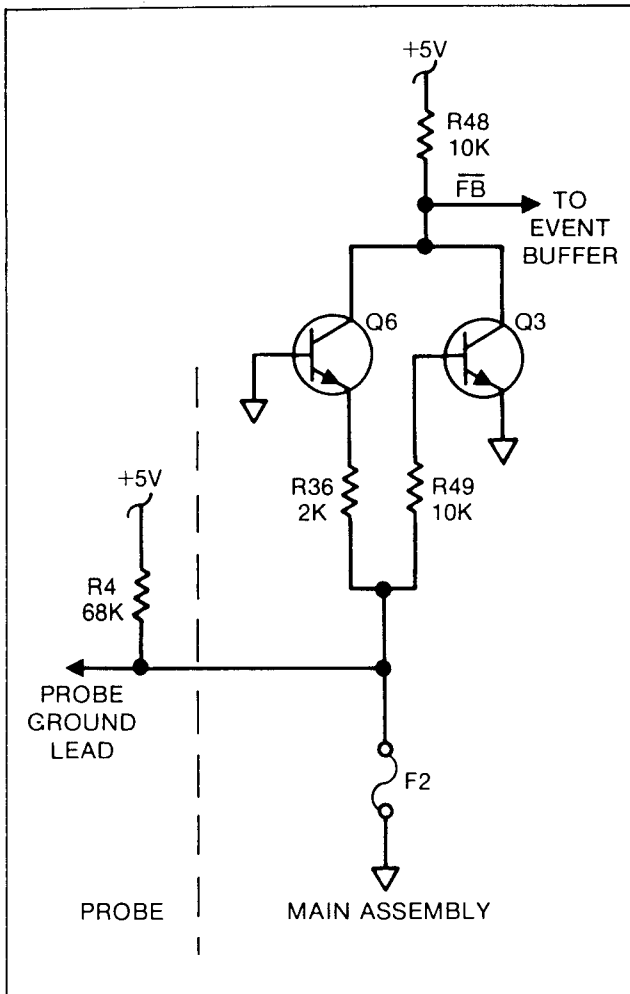
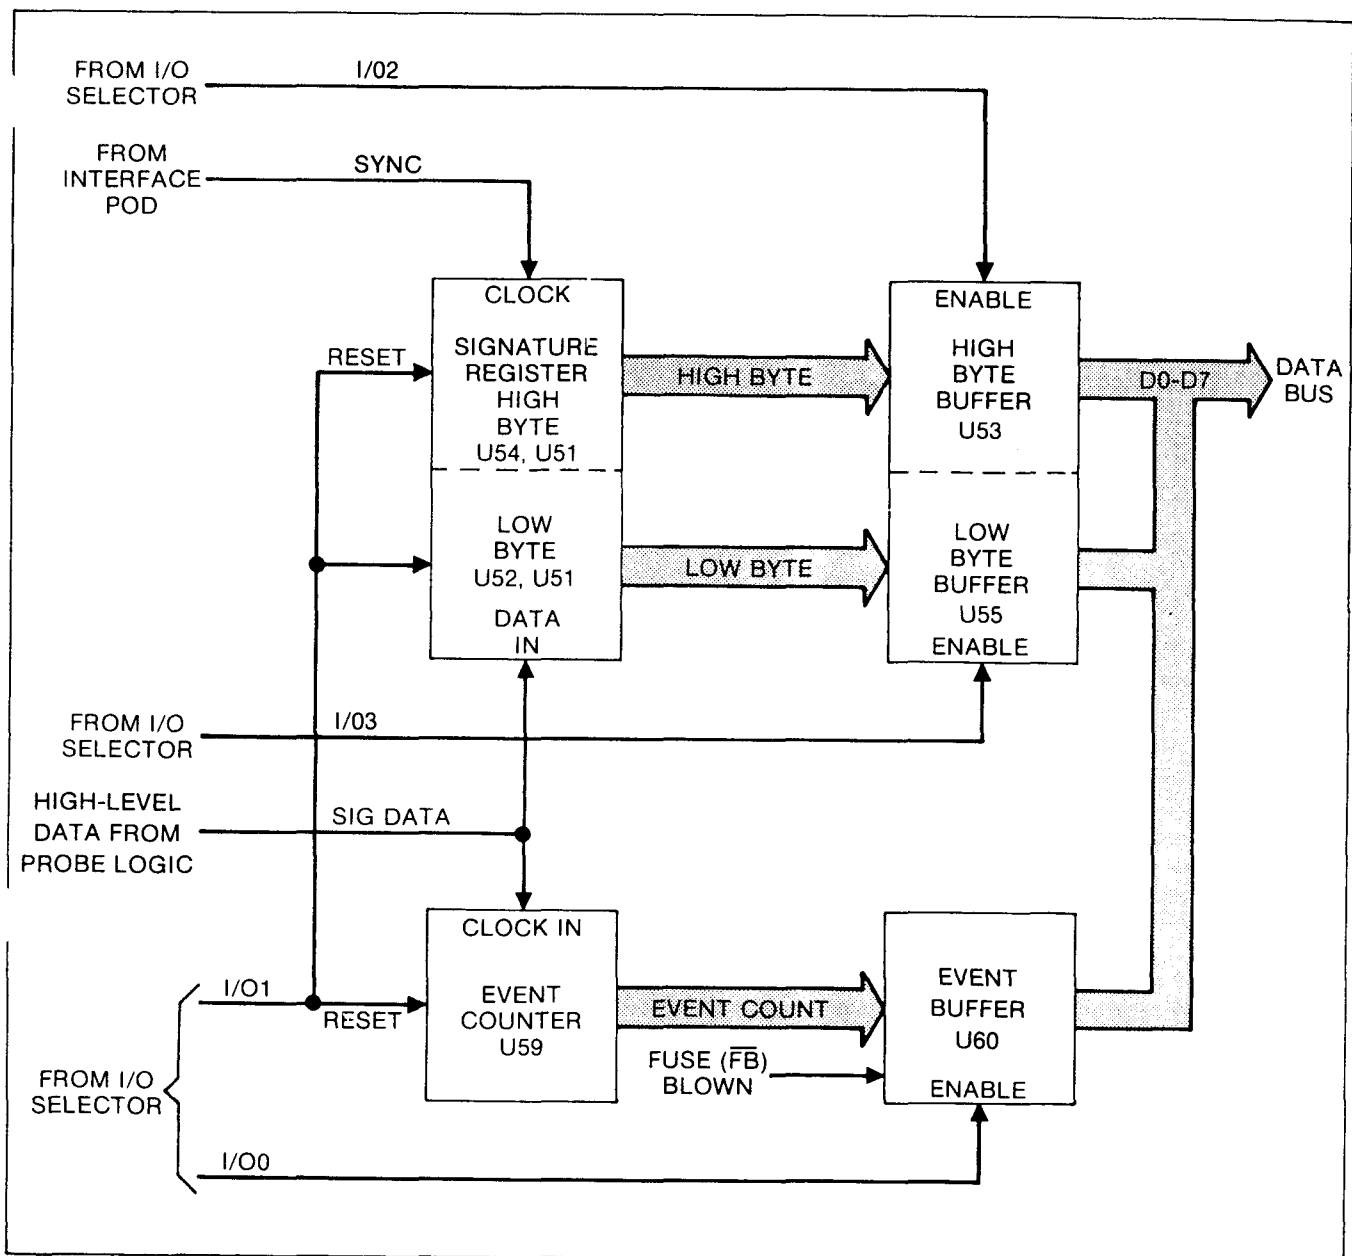

Figure 3-9. Probe Fuse Sensing Circuit
Figure 3-10. Signature Register/Event Counter
3-90. The ground path for the probe contains a fuse, F2. A sensing circuit, shown in Figure 3-9, detects failure of the fuse and/or connection of the probe ground lead to any positive or negative supply. Normally, the probe ground lead ties to ground via fuse F2. However, when an overload condition causes failure of F2, the ground lead goes to +5 volts due to a pull-up resistor (R4) contained in the probe. The +5 volts turns Q3 on to produce the $\overline{\text{FB}}$ (fuse blown) signal fed to the event buffer shown in Figure 3-10. The microprocessor reads the contents of the event buffer during the read probe operation, and examines the $\overline{\text{FB}}$ (fuse blown) bit for a blown fuse condition. If the $\overline{\text{FB}}$ line is low, the blown probe fuse messages appears on the troubleshooter display.
03. As shown in Figure 3-10, the SIG Data signals provided by the high level detector of the probe logic are fed to the data input of the signature register. The Sync